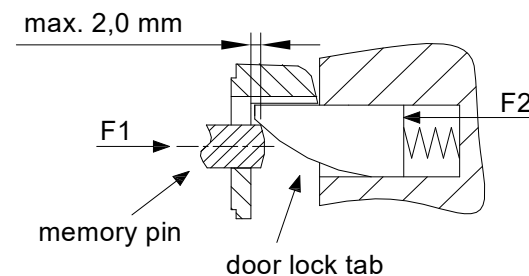

Fig. 2 Memory pin cooperating with door lock tab
- ✓ Conditionally, the door lock tab may also cooperate with the "oblique part" (Fig.2), but only in such a way that the memory pin's protrusion does not exceed 2.0 mm.